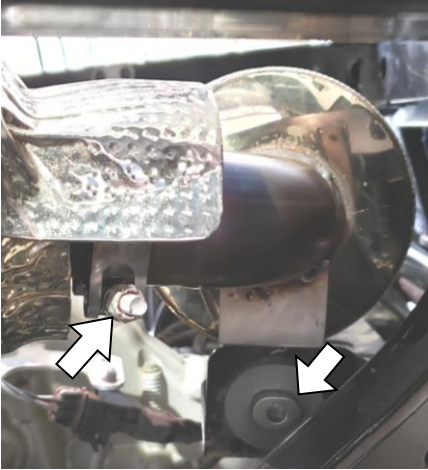

Figure 2
1. Place the **Clamp** onto the inlet of the **Muffer Assembly**, then put the **Muffer Assembly** into position and slide the inlet onto the front pipe. Slide the **Muffer Assembly** far enough onto the front pipe that the bracket on the outlet side can be brought to the *inside* of the vehicle mount, and then slide the **Muffer Assembly** back until the mounting holes line up. Refer to Figure 2.